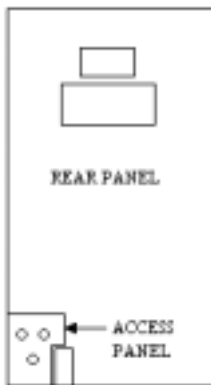

Figure 3-3
2. Remove the access panel and rear panel (see figure 3-3).
10. Remove the access panel and rear panel at the rear of the unit (see figure 3.3)
2. Remove the access panel and rear panel at the rear of the unit (see figure 3.3).